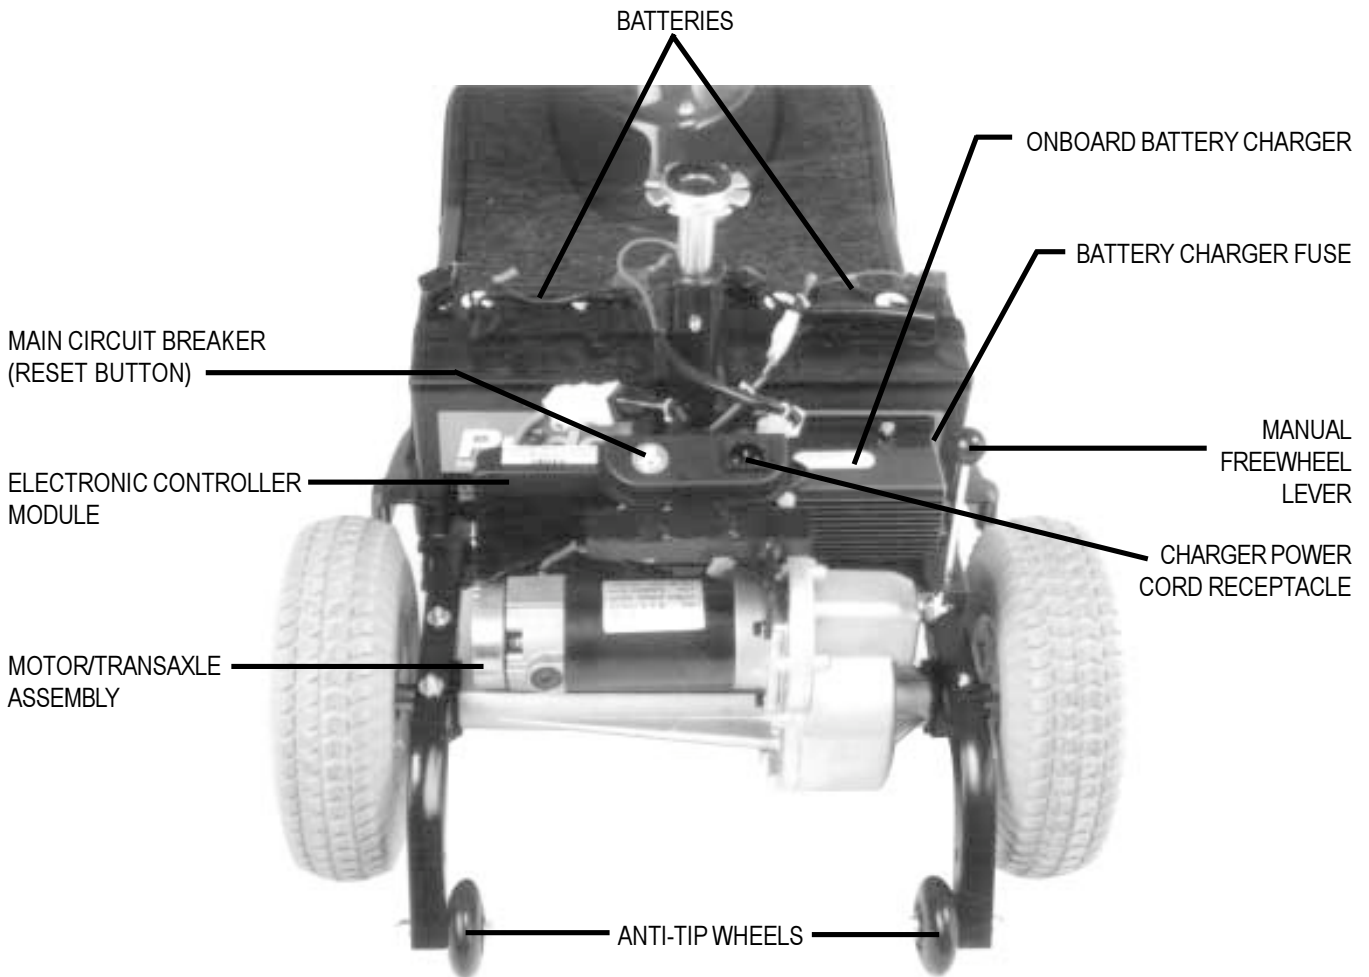

FIGURE 8. REAR SECTION
The onboard battery charger, the charger power cord receptacle, the battery charger fuse, the batteries, the electronic controller module, the main circuit breaker (reset button), the manual freewheel lever, and the motor/transaxle assembly are located on the rear section of your Victory. See figure 8. Refer to IX. “Disassembly and Assembly” for instructions on removing the rear shroud.
- The charger power cord plugs into your Victory’s battery charger by means of a receptacle located on the rear section of your Victory, near the manual freewheel lever and the main circuit breaker reset button. See figure 8.
- The main circuit breaker is mounted on the rear section of the Victory. See figure 8.
- The manual freewheel lever is located on the end of the motor/transaxle assembly at the right rear of the Victory. See figure 8.
The motor/transaxle assembly consists of a geared transmission and differential. This one piece, direct drive, fully sealed assembly provides quiet operation with maximum power and long life. See figure 8.
The anti-tip wheels are an integral and important safety feature of your Victory. Do not, under any circumstances, remove the anti-tip wheels from your Victory. See figure 8.
Your Victory uses two long-lasting, 12-volt, deep-cycle batteries that are sealed and maintenance free. They are recharged by an onboard 3-amp charging system designed for ease of use and convenience. See figure 8.